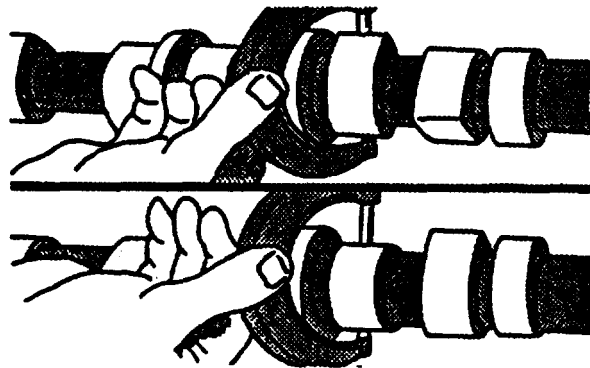

FIGURE 3-112. Measuring Camshaft Lobe Height
- (1) Measure each camshaft lobe at highest point and at narrowest point, refer to FIGURE 3-112. Subtract narrowest dimension from highest dimension to find camshaft lobe height. If height is not correct on any lobe, install a new camshaft.
- (2) Intake lobe should be 0.273 to 0.292 inch (6.93 to 7.42 mm), with a minimum acceptable lobe height of 0.263 inch (6.68 mm).
- (3) Exhaust lobe should be 0.266 to 0.286 inch (6.76 to 7.26 mm), with a minimum acceptable lobe height of 0.256 inch (6.50 mm)